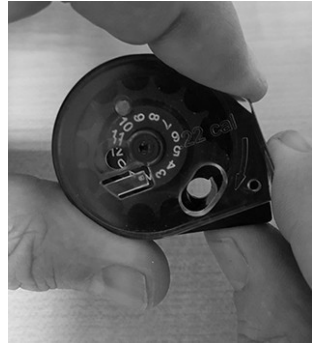

Fig. 15
1. Rotate the clear front cover in the direction of the arrow (clockwise) until the stop position is reached, the hole to place the first pellet will be clearly visible through the cut out in the clear front cover. Fig. 15.